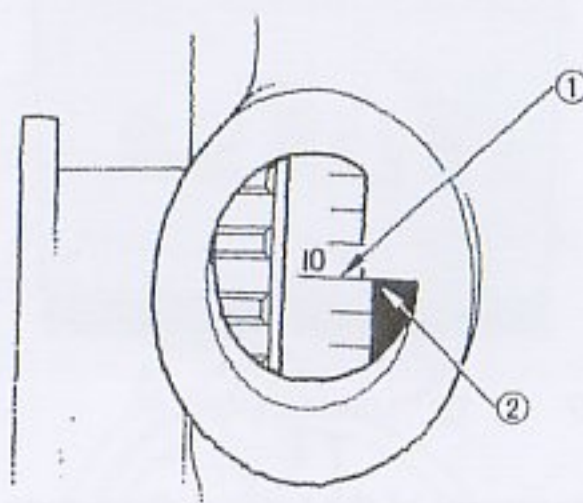

Fig. 28
- After starting up the engine, loosen the distributor clamp bolt ③, turn the distributor housing ④ slowly by hand, stop turning it at the point where the mark ① matches with the mark ②, and retighten the clamp bolt.
Mark ① and ② are shown in Fig. 28.